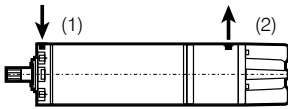

Fig. 1A
5.1 - Position the motor horizontally. Remove the screw (1) of filling hole and the screw (2) of the emptying hole. Pour the clean water into the motor, make sure that no air left inside the motor. Replace the screw (2) of emptying hole. (Fig. 1A)